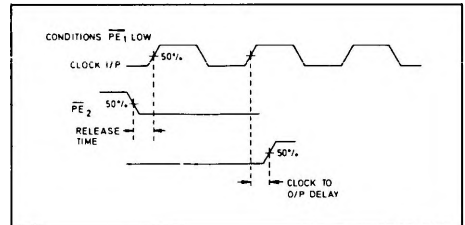

Fig. 4 Release timing diagram
- Release time is defined as the minimum time that can elapse between a H→L transition of a control input and the next L→H clock pulse to ensure that the $\bar{\phi}7$ mode is forced by that clock pulse (see Fig. 4).